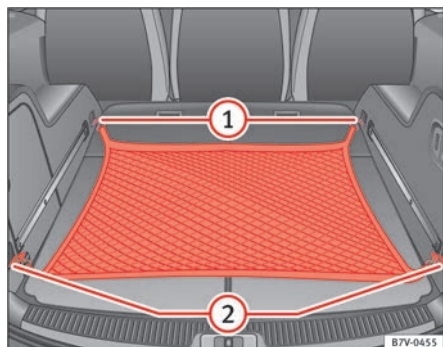

Fig. 100 In the luggage compartment: net used on secured baggage.
- Hook the baggage net into the fastening rings ⇒ fig. 100 ① and ②.